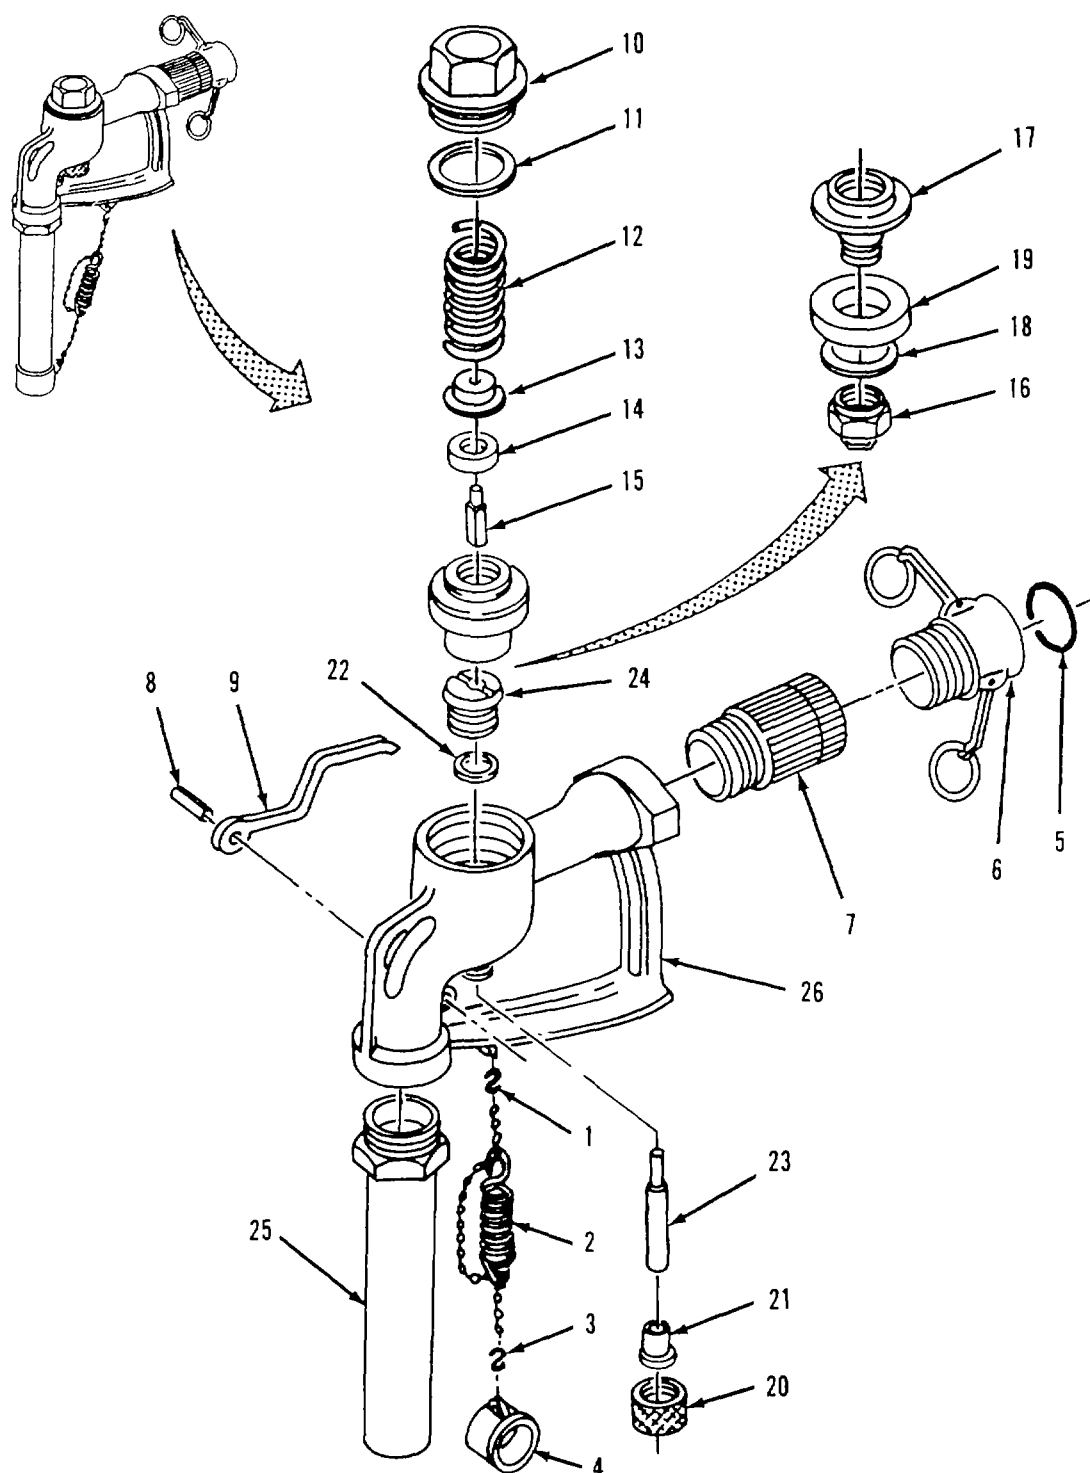

Figure 4-14. Distribution Nozzle (1 1/2-inch) Disassembly.
- a. Disassembly. Refer- to figure 4-14.
- (1) Disconnect S-hook (1) from body (26).
- (2) Remove S-hook (1) from chain and spring (2).
- (3) Remove tube cap (4) and S-hook (3) from chain and spring (2). Disconnect S-hook from tube cap.
- (4) Remove gasket (5) from female coupling (6).
- (5) Remove swivel (7) and female coupling (6) from body (26).
- (6) Unscrew female coupling (6) from swivel (7).
- (7) Drive out groove pin (8) and remove handle (9) from body (26).